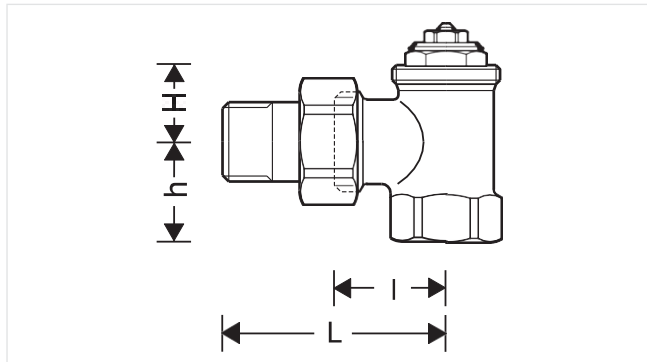

Fig. 3. Angle
| Angle to EN215 (D)(Fig. 3)    | 10 | 0.35 (0.41)             | Rp 3/8"         | 26 | 52 | 22 | 20 | -              | V2000EFV10 |
|  | FIG3/8CS  | Compression fitting for COPPER and STEEL pipe   |             |               |
|  |                  | 3/8", DN10   | 10 mm       | FIG3/8CS10    |
|  |                  | 3/8", DN10   | 12 mm       | FIG3/8CS12    |
|  | 3/4", DN20       | 18 mm  | FIG3/4CS18  |               |
|  | 3/4", DN20       | 22 mm  | FIG3/4CS22  |               |
|  | FIG3/8CSS | Compression fitting for COPPER and STEEL pipe   |             |               |
|  |                  | 3/8", DN10   | 12 mm       | FIG3/8CSS12   |
|  | 3/4", DN20       | 18 mm  | FIG3/4CSS18 |               |